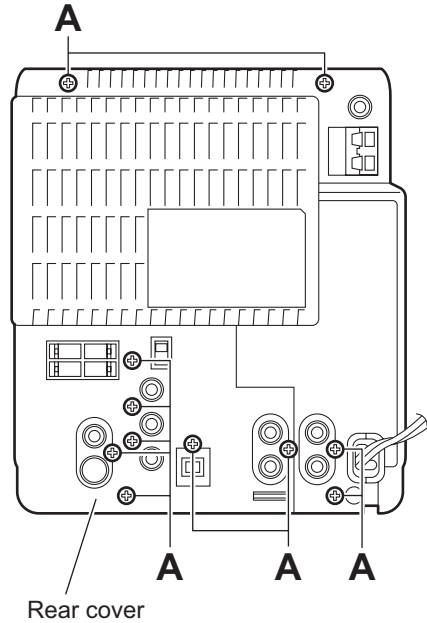

Fig.1
(See Figs.1 and 2)
- (1) From the back side of the main body, remove the eleven screws **A** attaching the rear cover. (See Fig.1.)